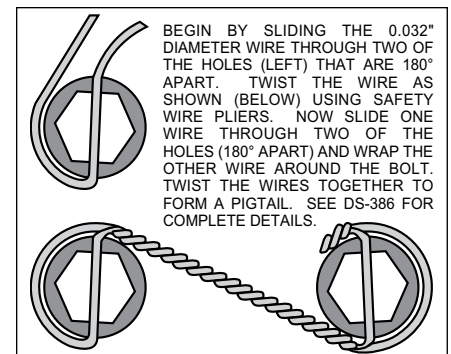

Figure 3. Safety Wire Diagram
- With the larger I.D. side of the rotor (6) facing away from the hat (7), bolt rotor (6) to the hat (7) through the backside of the rotor using washers (8) and bolts (9). Apply red *Loctite*® 271 to the bolt threads and torque to 155 **in-lb** using a criss-cross pattern. For an added measure of security, the bolts may be safety wired using standard 0.032 inch diameter stainless steel safety wire as shown in Figure 3. Please refer to Wilwood's data sheet DS-386 (available at www.wilwood.com/Pdf/DataSheets/ds386.pdf) for complete safety wire installation instructions. Slide the rotor/hat assembly onto the spindle. Check to be sure the hat seats squarely against the hub. Install a couple of lug nuts (finger tighten) to keep the rotor/hat assembly in place while continuing with the installation.
- Install spacer (14) and one washer (15) over each pre-installed stud (13) on the radial mount bracket (1). Slide the caliper (10) in place over the studs and rotor, then install the washer (12) and lock nut (11) to hold the caliper in place. The caliper bleed screws should be pointing up. Snug the lock nuts (11) and check that the rotor (6) is centered in the caliper (10). Add or subtract .029" shims (3) as necessary between the caliper mounting bracket (1) and the spindle to center the caliper (10).
- Remove the caliper center bridge pad retainer bolt, nut, and tube from the caliper. Slide the brake pads (16) into place. They should install easily without interference. Check that the outside radius of the brake pad is aligned with the outside diameter radius of the rotor face. Add or subtract shims (15) between the caliper (10) and mount bracket (1) to gain the proper alignment. Reinstall the center bridge pad retainer tube, bolt, and lock nut. The lock nut should be snug without play in the bolt or tube. Be cautious not to over tighten.
- Once all clearances have been checked, remove the wheel, caliper, hat, and rotor from the spindle and hub. Secure the caliper mounting bracket (1) to the spindle with bolt (2), washers (3), lock washer (4) and nut (5) as done previously using red *Loctite*® 271. Torque bolt (2) to 75 ft-lb. Reinstall the hat and rotor assembly and again using two lug nuts (finger tighten) to hold it in place. Reinstall the caliper and torque the caliper nuts (11) to 28 ft-lb.